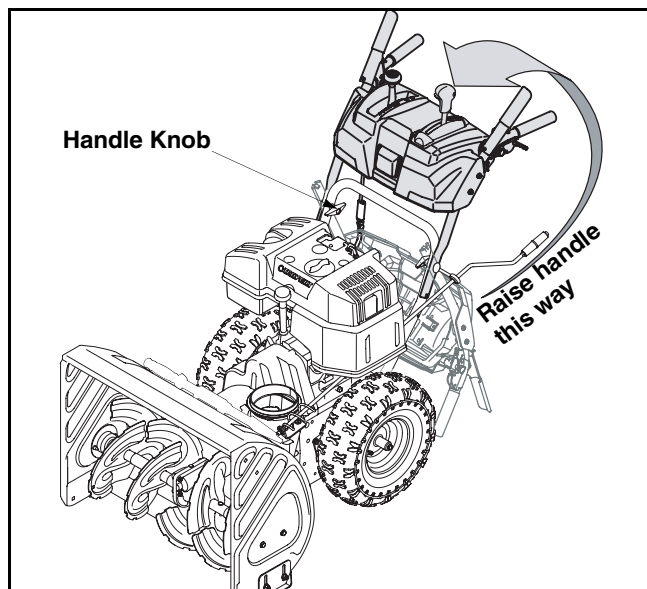

Figure 1
1. Raise the upper handle assembly in the direction shown in Figure 1. Align the upper handle with the lower handles.